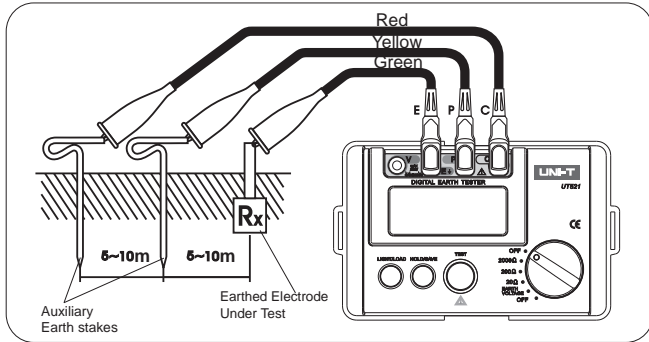

Figure2
- a. place 2 ground stakes deep into the soil. Earth electrode(E), probe(P) and auxiliary earth (C) should be in a straight line and 5-10m apart from each other. See Figure 2 for the connection.